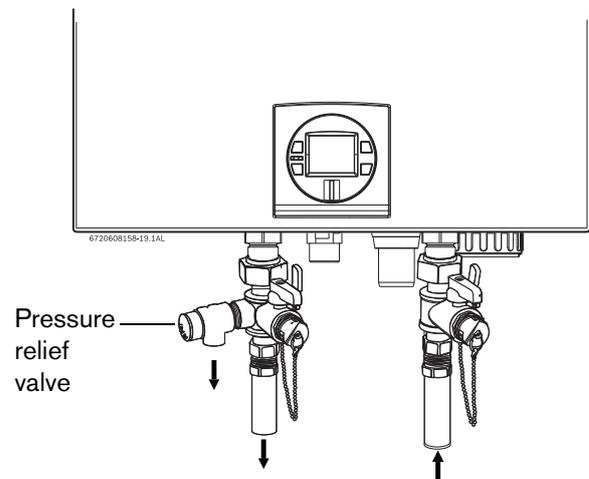

Fig. 28 Plumbing Connections (with isolation valves) and Pressure Relief Valve
- ▶ **Full port shutoff or isolation valves must be installed on both the cold water supply and hot water outlet lines to facilitate servicing the heater (see Fig. 28).**
The location of the PRV must be readily accessible for servicing or replacement, and be mounted as close to the water heater as possible. See Fig. 28. To install the PRV, a suitable fitting connected to an extension on a "T" fitting can be sweated to the hot water line. Support all piping.